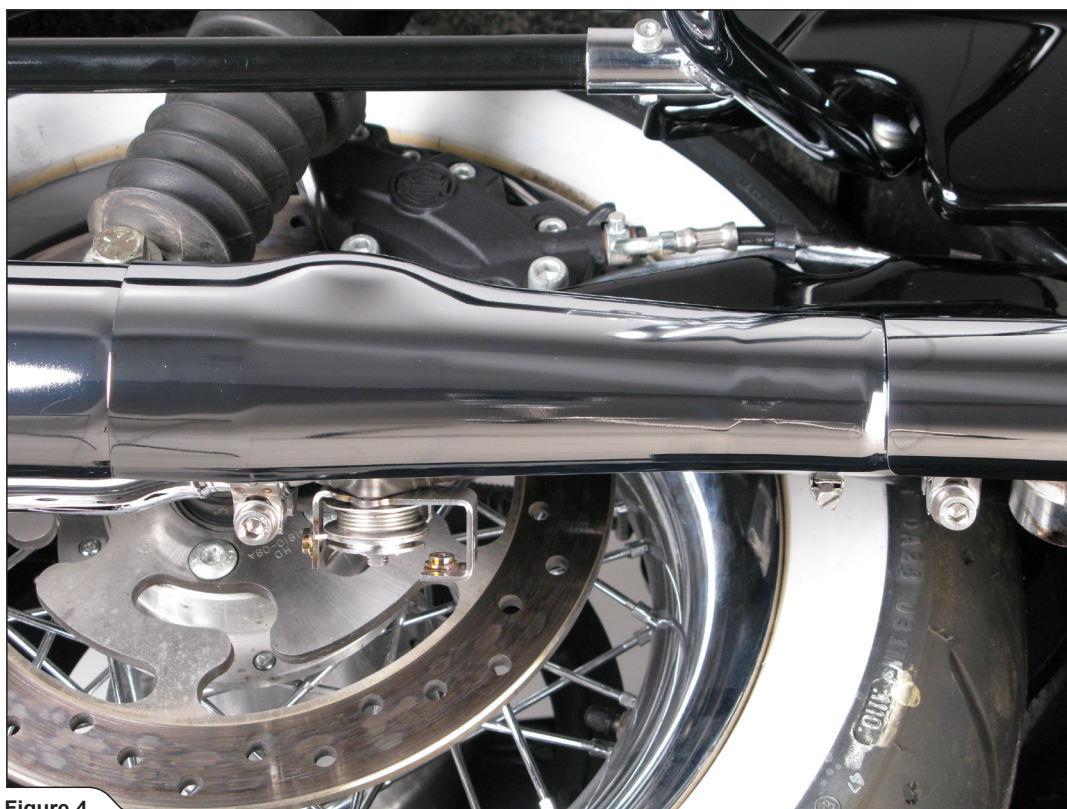

Figure 4
4. Install the assembled mufflers back onto the motorcycle; check the **Slip-On** exhaust system installation manual for details (Figure 4).